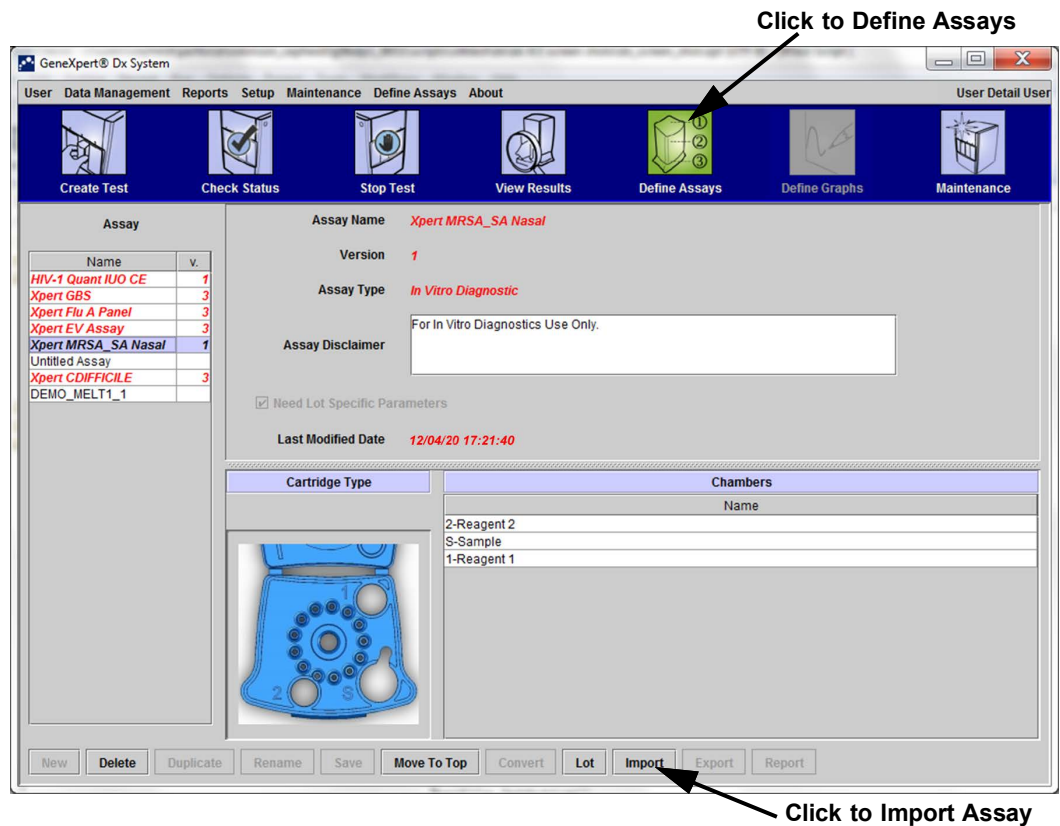

Figure 2-70. System—Define Assays Window (Detail User View)
2. The Adobe[®] Reader window appears and displays the GeneXpert Dx System Installation Qualification Report. See Figure 2-70.